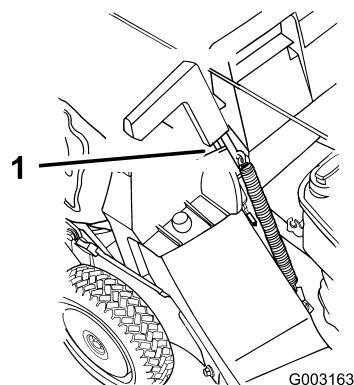

Figure 22
5. Pull the discharge door handle forward until the pin clears the catch, and move the handle rearward until the pin locks in the bag notch (Figure 22).